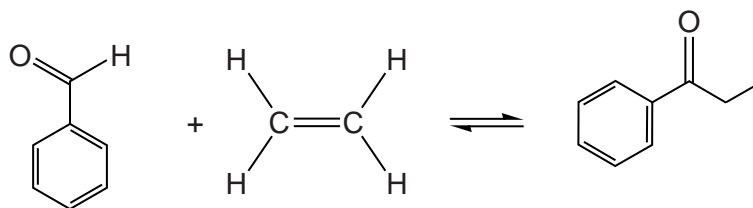

Figure 1: The equation for the reaction expected to occur between benzaldehyde and ethene
- (b) Classify the **type** of reaction shown in the forward reaction in **Figure 1** in the article.
- (ii) Describe a feature of the infrared spectrum that Gibson and Fawcett would have expected from the product if the reaction shown in **Figure 1** of the article had occurred. Give an appropriate wavenumber range.